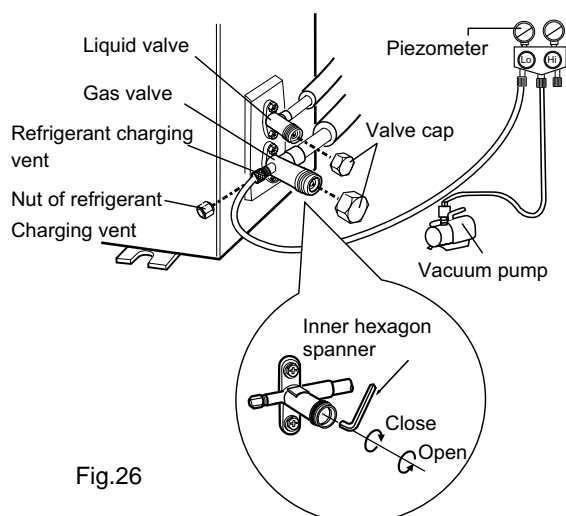

Fig.26
- (1) Remove the valve caps on the liquid valve and gas valve and the nut of refrigerant charging vent.
- (2) Connect the charging hose of piezometer to the refrigerant charging vent of gas valve and then connect the other charging hose to the vacuum pump.
- (3) Open the piezometer completely and operate for 10-15min to check if the pressure of piezometer remains in -0.1MPa.
- (4) Close the vacuum pump and maintain this status for 1-2min to check if the pressure of piezometer remains in -0.1MPa. If the pressure decreases, there may be leakage.
- (5) Remove the piezometer, open the valve core of liquid valve and gas valve completely with inner hexagon spanner.
- (6) Tighten the screw caps of valves and refrigerant charging vent.(As show in Fig.26)